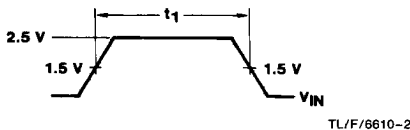

FIGURE 1
4. Set-up time (t_1) for input trigger pulse must be $> 40 \text{ ns}$. (See Figure 1).